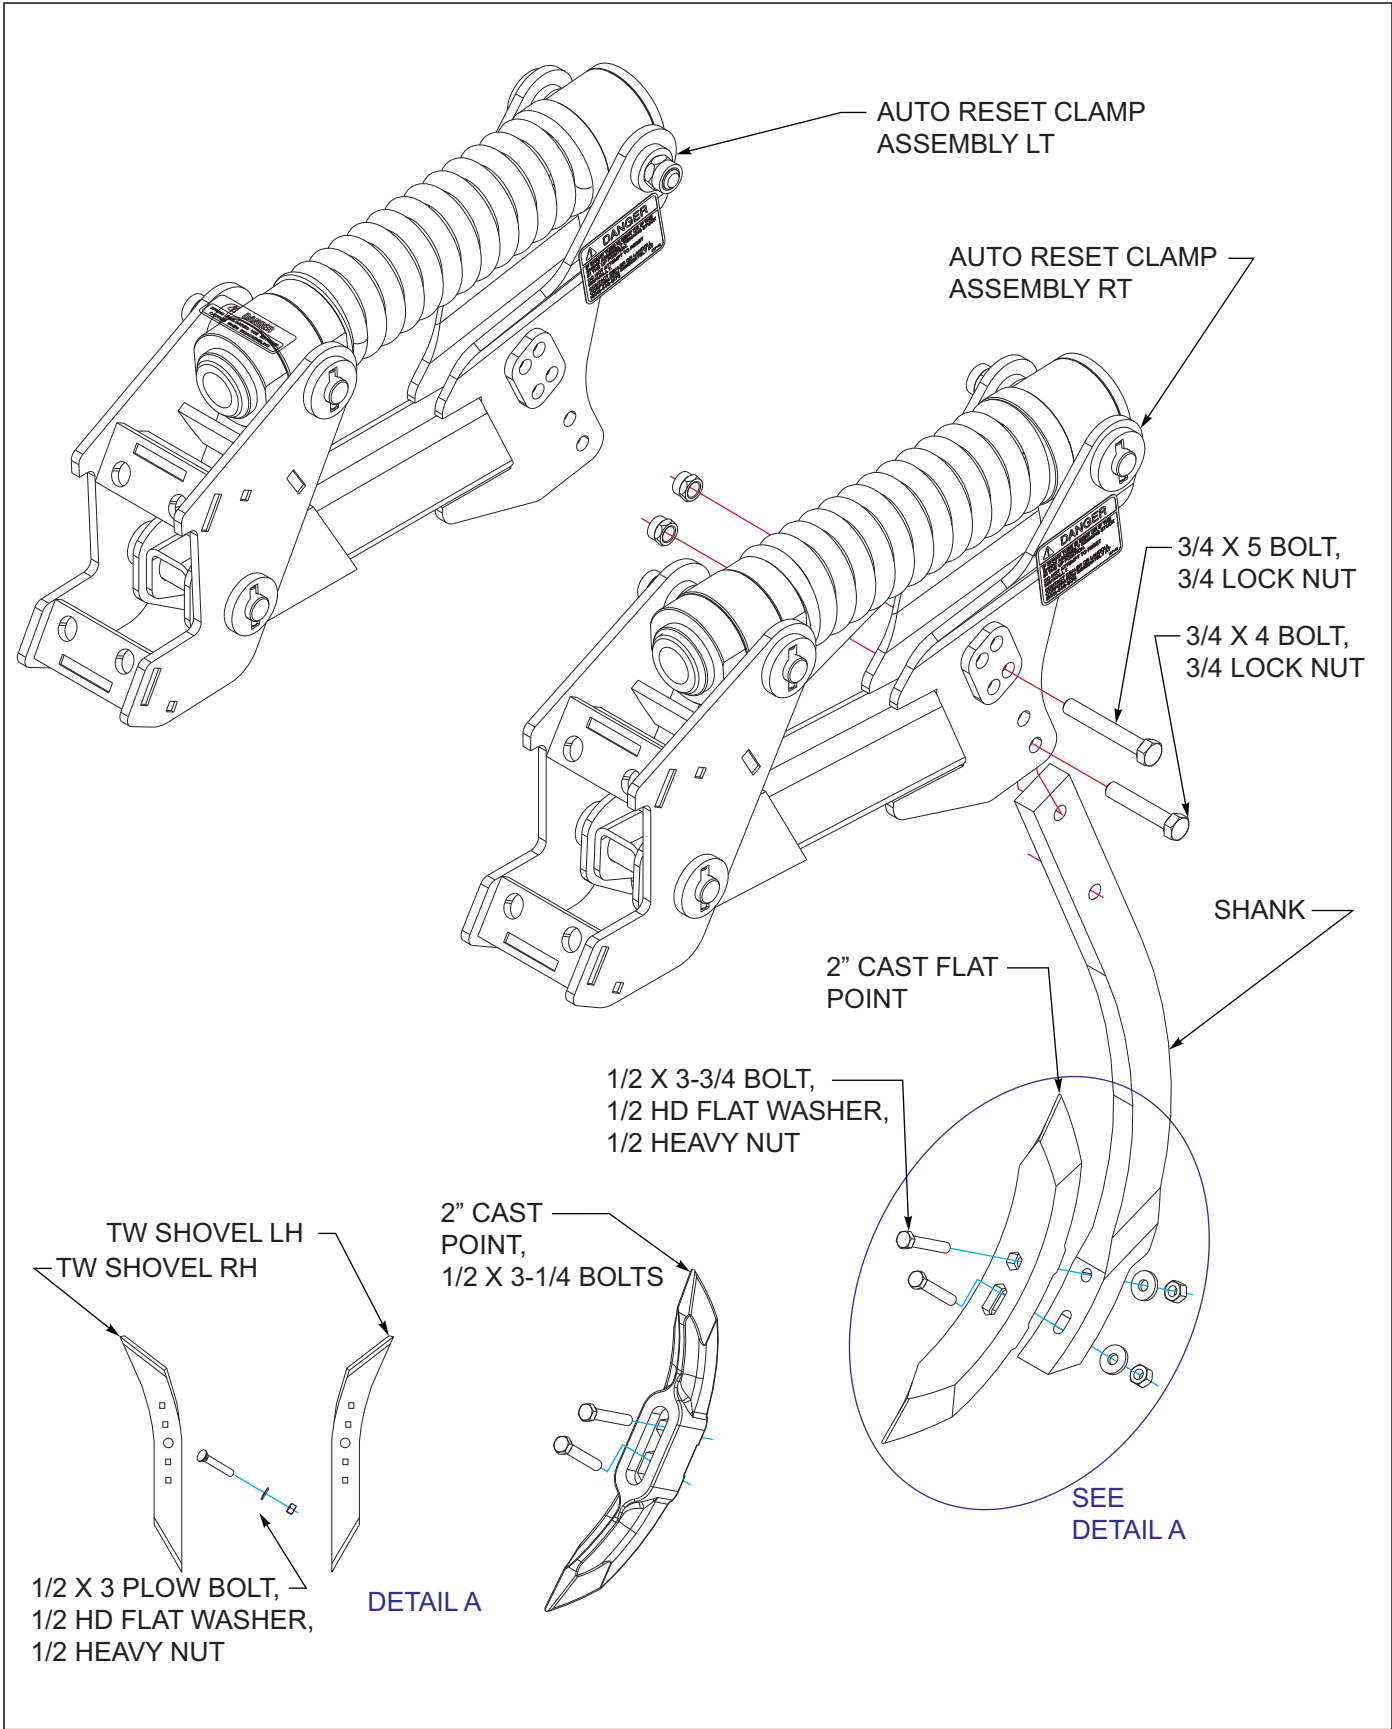

Figure 3-11: Auto Reset Shank and Shovel Installation
1. Attach each shank to each auto reset clamp assembly using 3/4 x 4 bolt, lock nut in bottom hole and 3/4 x 5 bolt, lock nut in top hole See Figures 3-11.